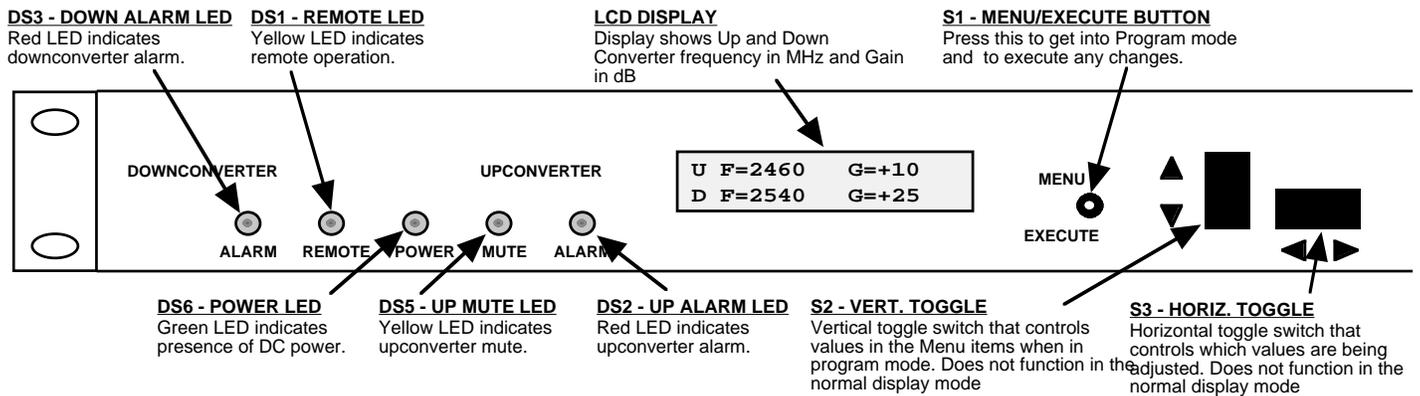

Figure 2.2 Model 2017-25-01 Front Panel Controls and Indicators
- 8.) Be sure DS6 (green, DC Power) is on and DS2 (red, Alarm) is off (Figure 2.2).
- 7.) Be sure DS6 (green, DC Power) is on and DS2 (red, Alarm) is off (Figure 2.2).
Alarm indications appear on the LEDs (see figure 2.2).